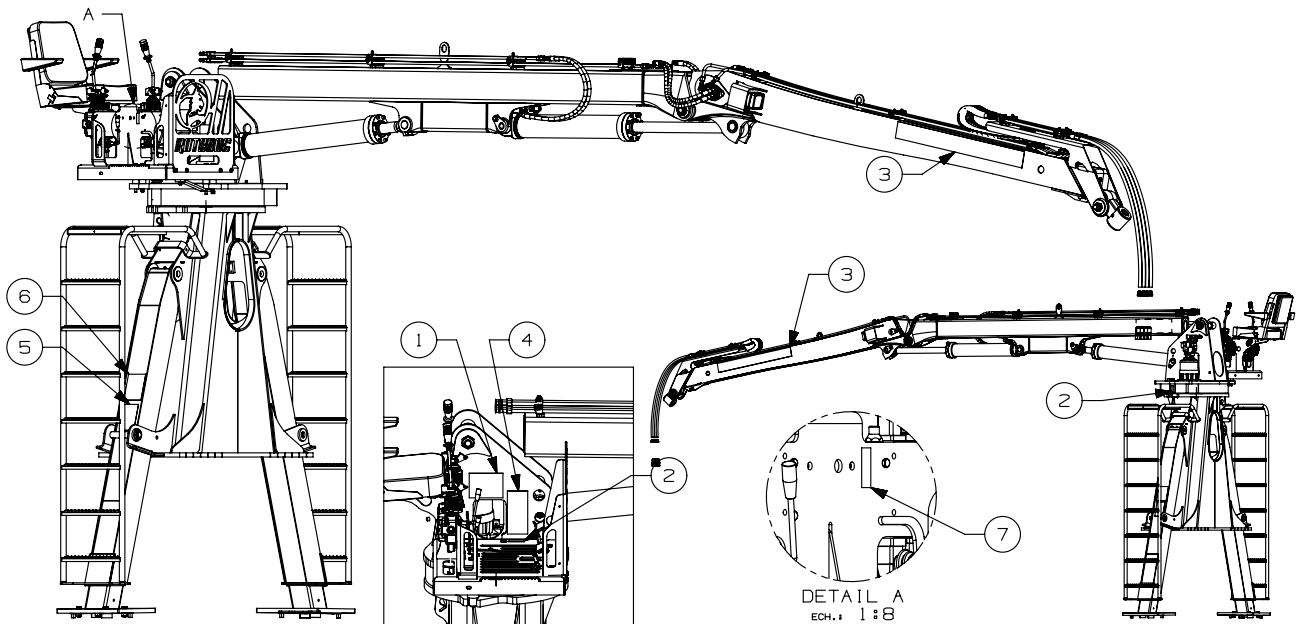

Figure 2 - Location of safety labels
- Check regularly that the following safety labels are on the loader in the places shown in *Figure 2 on page 18*.